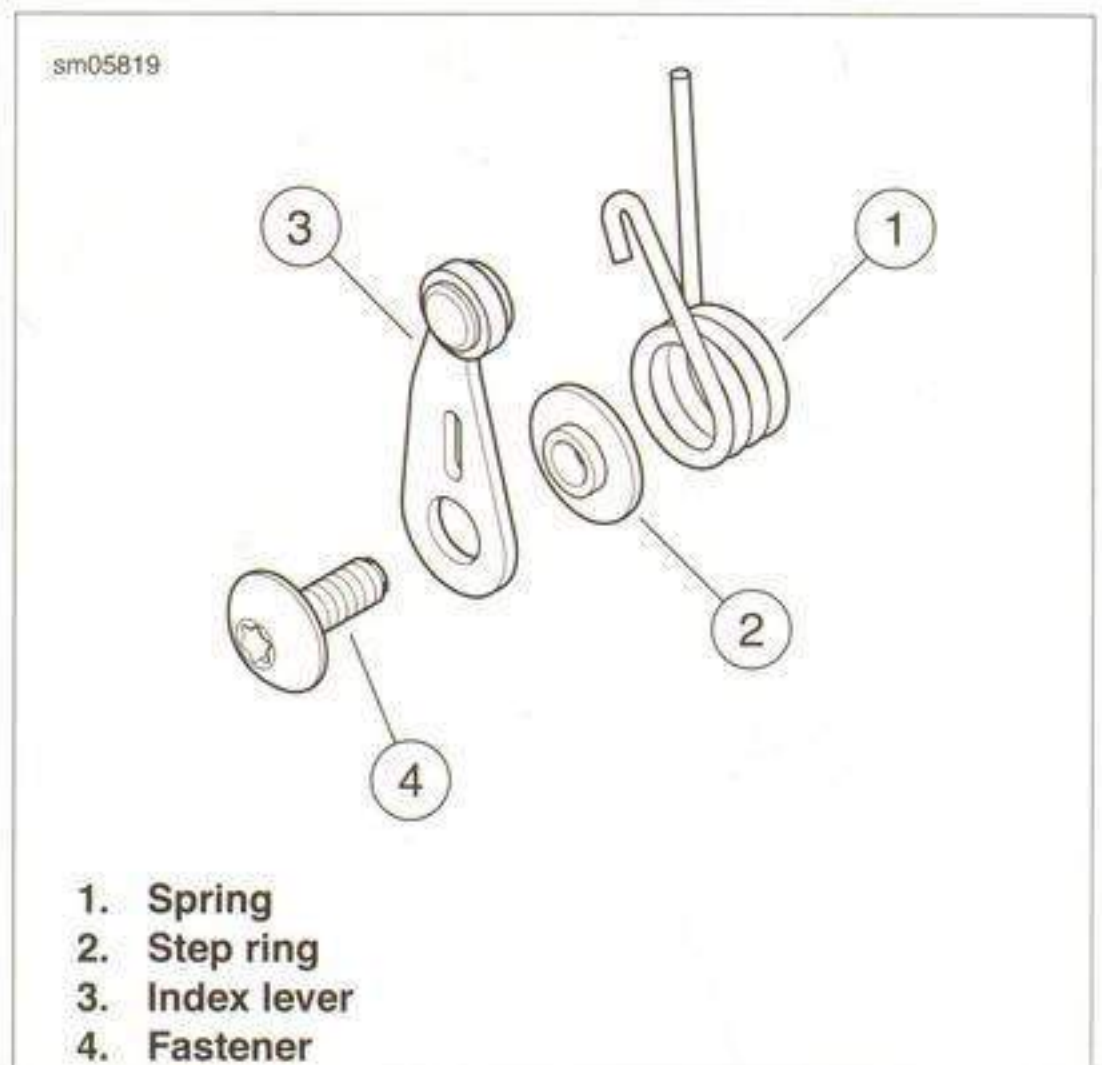

Figure 6-68. Detent Wheel and Index Lever
3. See Figure 6-68. Install step ring (2) and index lever (3), and secure with fastener (4). Tighten to 11 Nm (97 in-lbs).